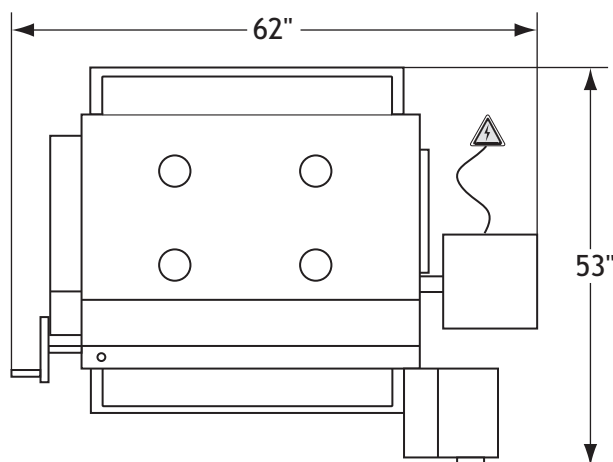

Figure 13. W1772/W1773 minimum working clearances.
- **Working Clearances:** Consider existing and anticipated needs, size of material to be processed through the machine, and space for auxiliary stands, work tables or other machinery when establishing a location for your drum sander (see **Figure 13** for minimum working clearances).